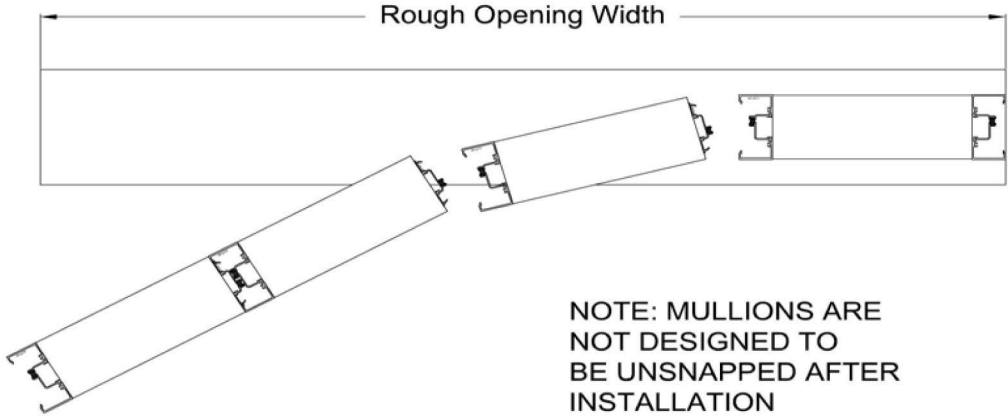

**Fig. 9A**
5. **IMPORTANT:** Apply sealant to the horizontal member at the point of contact with the vertical mullion prior to assembly of frame units. Then snap into place. See Figures 9A and 9B.